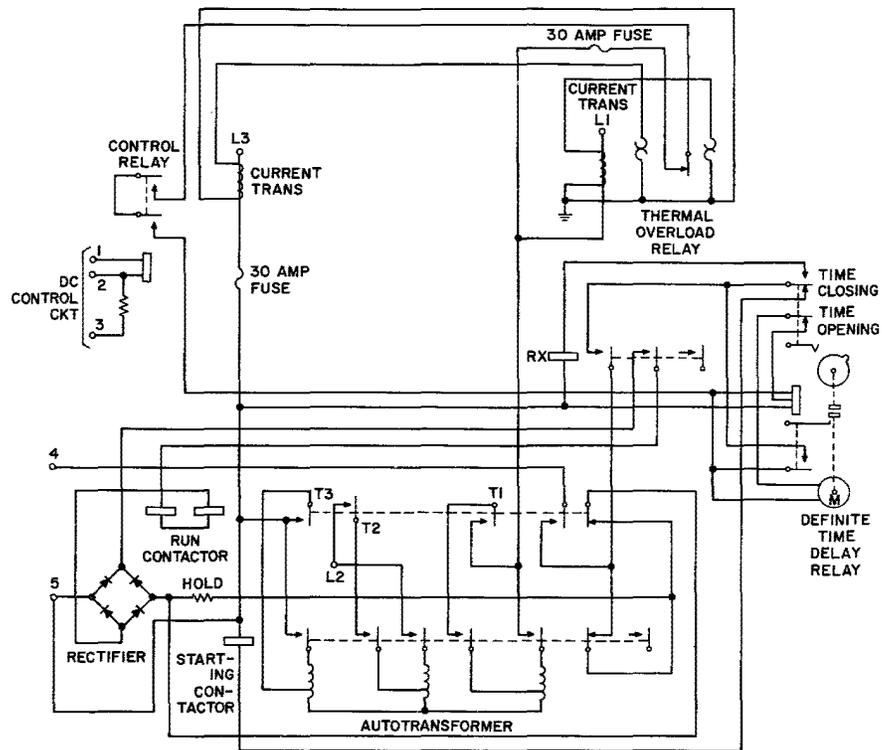

Fig. 21 — KS-15663 List 7 and 8 AC Starter Schematic
- KS-15663 Lists 7 and 8 (Fig. 21)